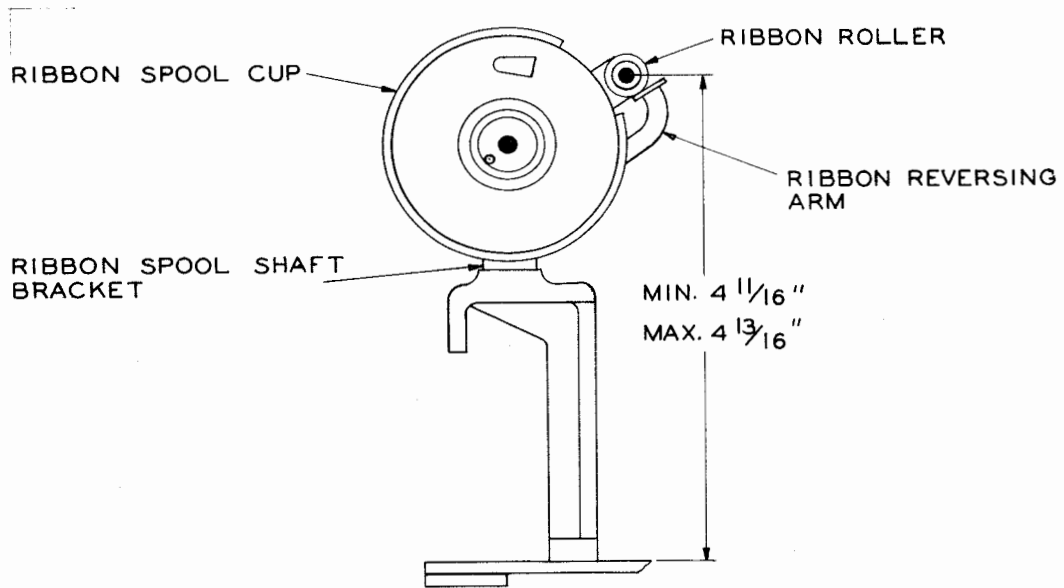

Figure 21
2.44 Ribbon-spool Cups: The centers of the ribbon-spool-cup rollers shall be minimum 4-11/16 inches, maximum 4-13/16 inches from the base plate. (See Figure 21.)